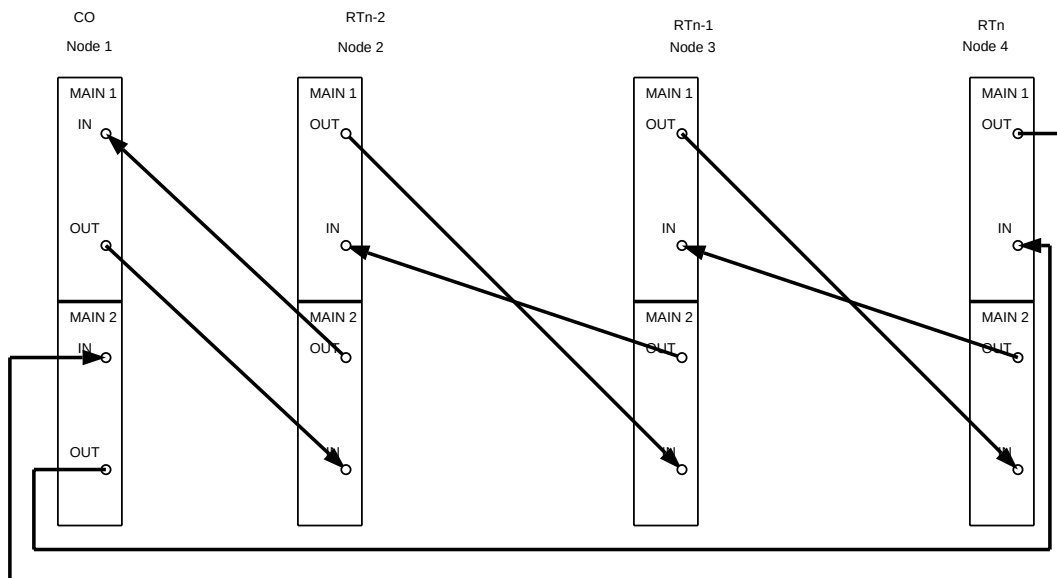

Figure 22. DDM-2000 OC-3 Drop or Add/Drop Network to Ring Upgrade
49. Repeat this procedure from Step 37 for all remaining nodes to be converted. Figure 22 shows the completed ring configuration.